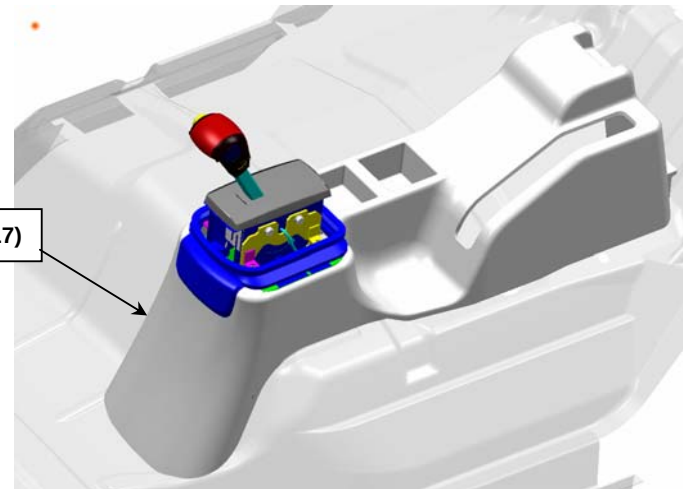

Fig 17. Installation of Shift Lever Console (17)
13. Install Shift Lever Console as shown in Figure 17.